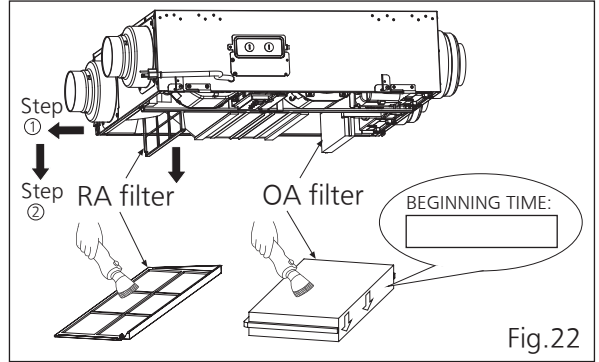

Fig.22
2. Remove OA filter and RA filter to clean with vacuum cleaner. (Fig.22)